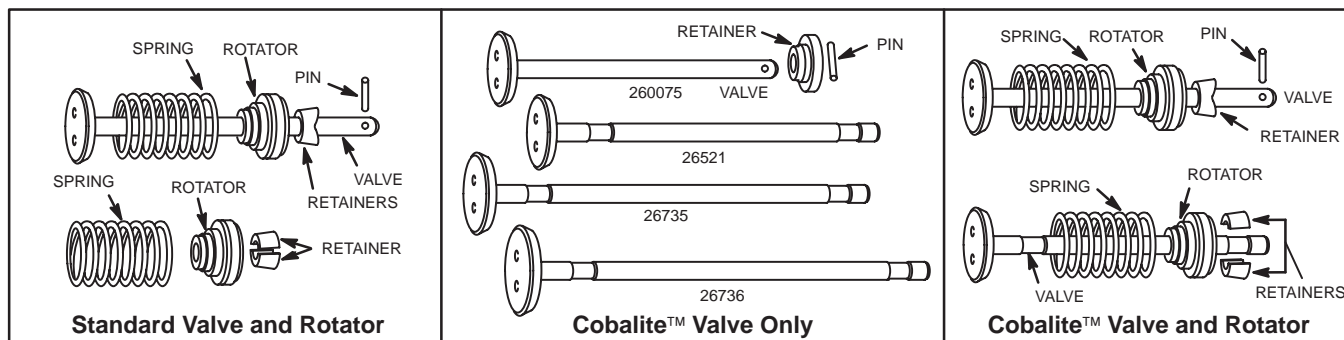
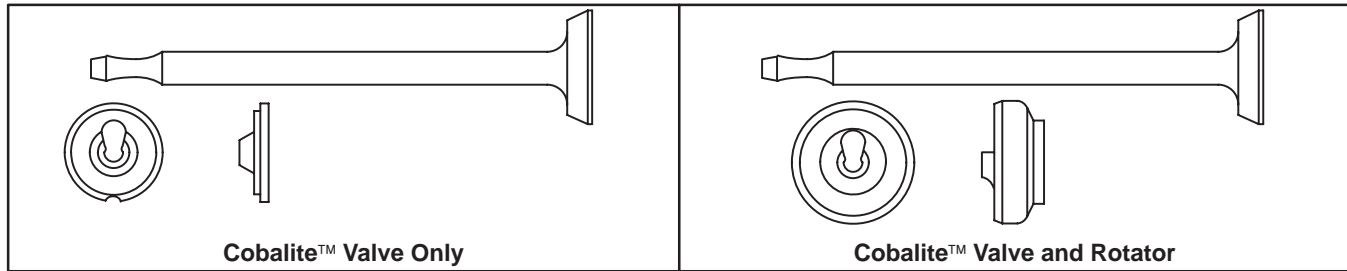

Fig. 536
Fig. 537
- C. For LP or Natural gas, use a Cobalite™ valve without rotator, see Table No's. 31 or 32, Pages 22 or 23, using Fig. 536 or Fig. 537 to determine type of retainer being used.